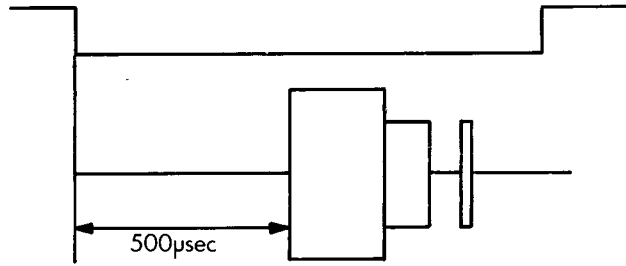

Fig. 5-1 Index burst waveform
- 5) Measure timing between sweep start and an initial data pulse. It should be 500 usec \pm 500 usec. When the timing is not within this range, proceed with the following adjustment. (Refer to Fig. 5-1).
- vi) Adjust VR201 so Index frequency is 200 ± 2 ms (See Fig. 5-1).